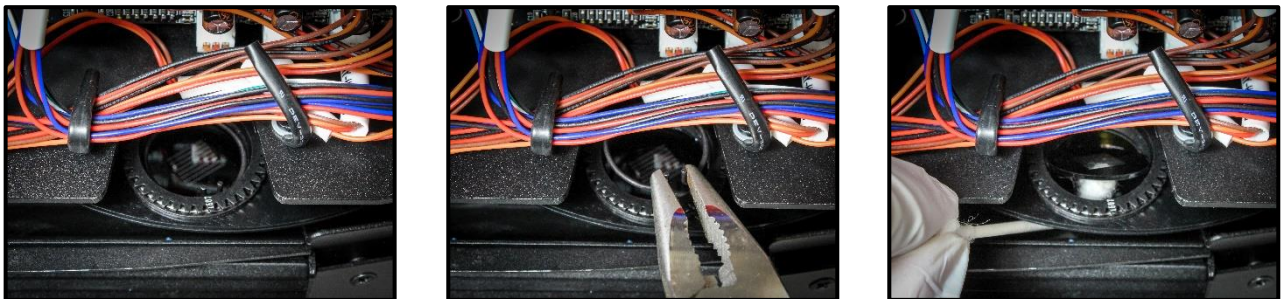

Figure 7-3: Removing a glass gobo
3. Turn the holder so the ends of the gobo spring are at the top of the plate as shown to left in Figure 7-3.